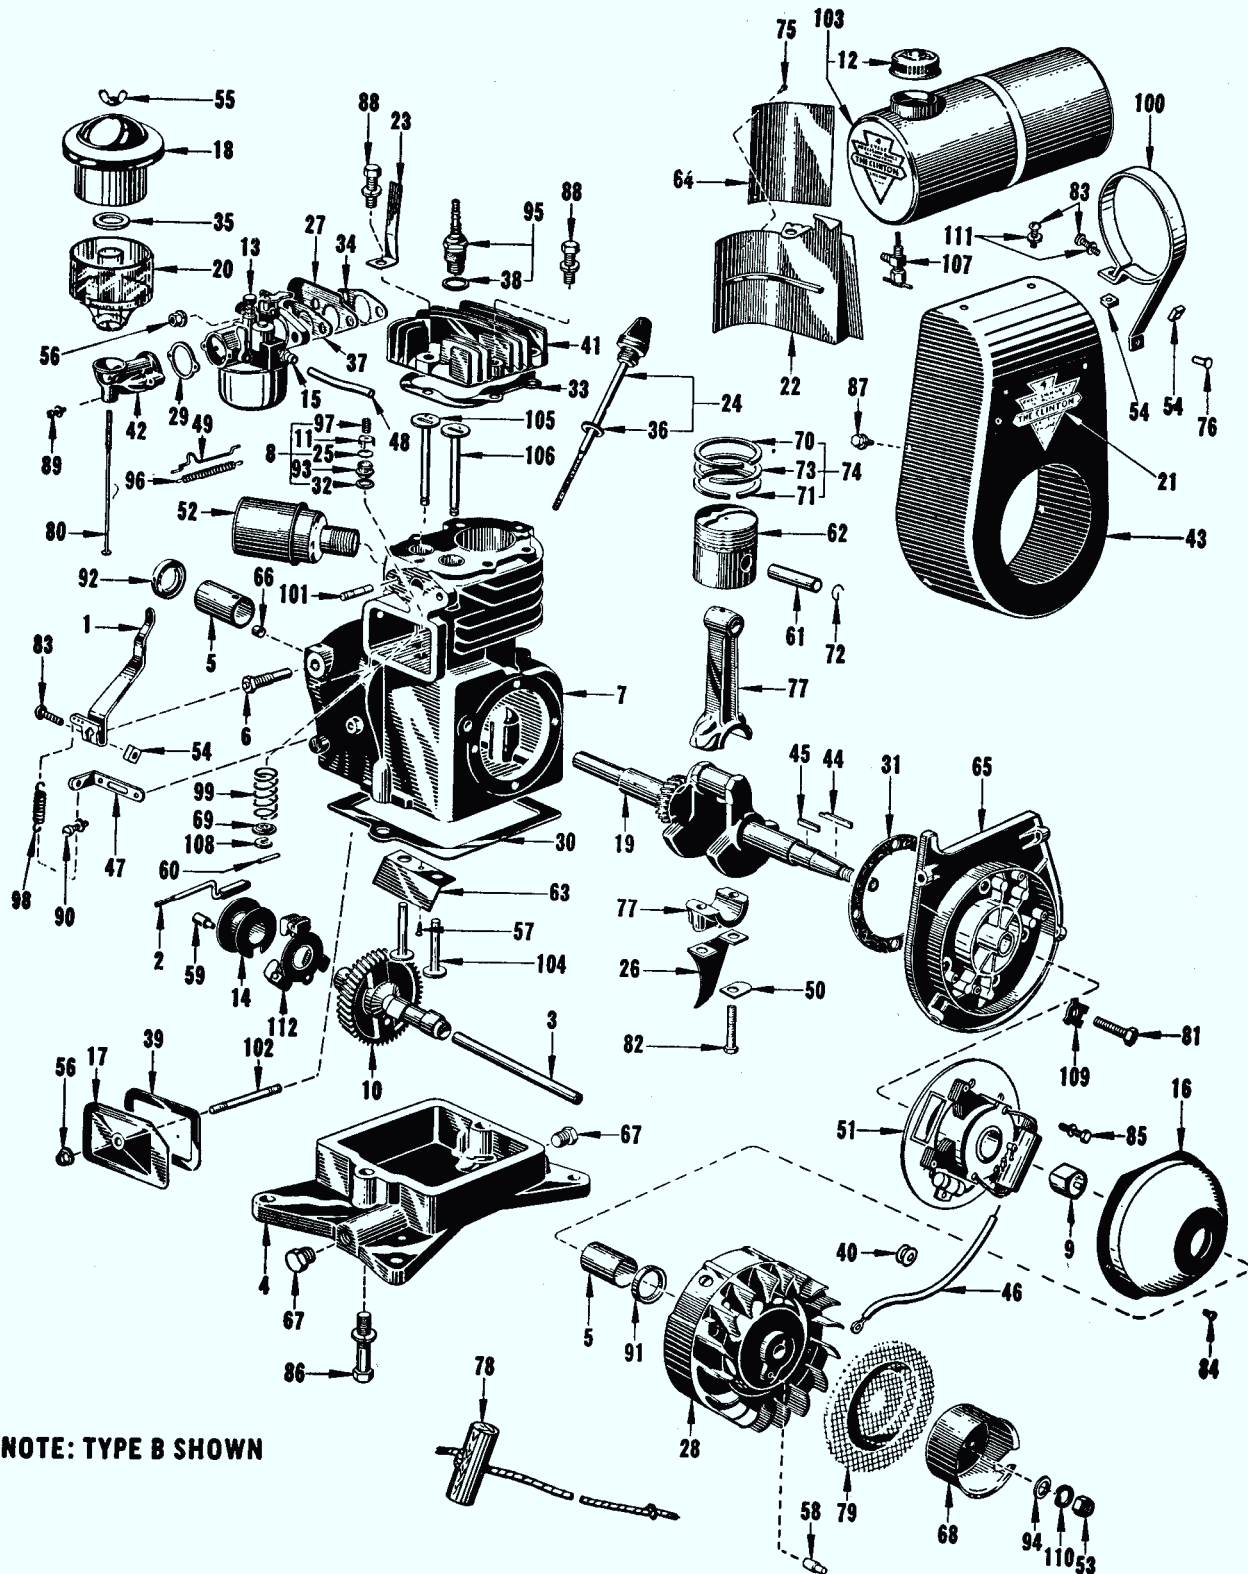
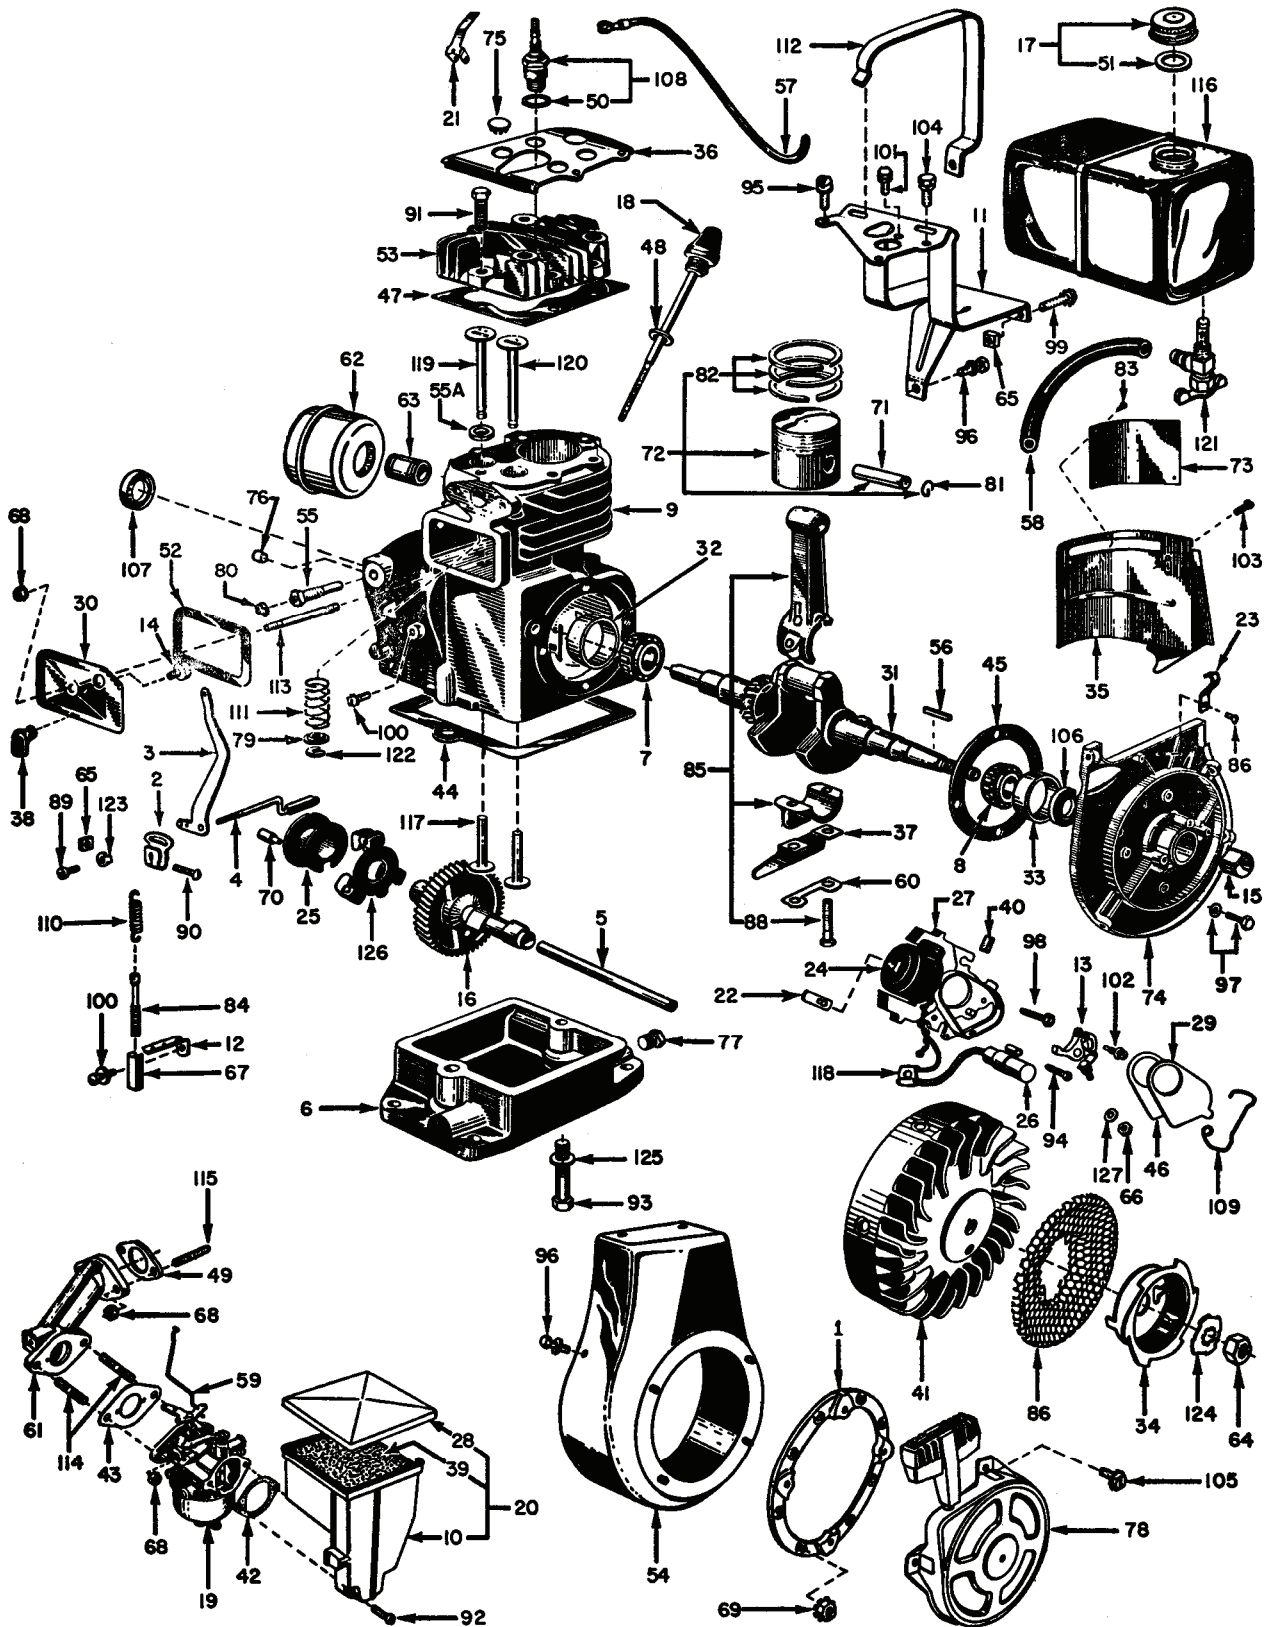

Fig. CL50 — Exploded view of series 700 engine. Early models were equipped with Scintilla magneto (51) as shown.
Fig. CL56—Exploded view of model 498-0000-000 engine. Governor weight assembly (126) is retained to camshaft gear by pin (70) that is pressed into the gear.
GOVERNOR. Either a mechanical or an air vane type governor is used. All vertical shaft engines and some horizontal shaft engines use an air vane type governor as shown at (126) in the exploded view of engine in Fig. CL53. Mechanical governors are of the type shown in the exploded views of engines in Figs. CL50 and CL56.
MECHANICAL GOVERNOR. The governor weight unit (112—Fig. CL 50 or 126—Fig. CL56) is driven by the cam gear, and is retained to the gear by a pin (59—Fig. CL 50 or 70—Fig. CL 56) driven into the gear. The governor collar (14—Fig. CL 50 or 25—Fig. CL 56) has a notch in the inner flange of the collar which fits around the weight unit retaining pin. The governor
synchronized. With the engine not running, move the governor throttle arm (1—Fig. CL50 or 3—Fig. CL56) so that the governor shaft holds the governor weight unit in fully closed position. At this time, there should be 1/32 to 1/16-inch clearance between the high speed stop on the carburetor throttle arm and the carburetor casting. To obtain
this adjustment, increase or decrease the loop in the carburetor to governor link (49—Fig. CL50) on older model engines or loosen the adjustment screw (89—Fig. CL56) on newer model engines and reposition the arm (3) on the adjuster (2) and tighten adjustment screw (89).
exceed 3600 RPM) by adjusting tension of governor spring (98—Fig. CL50 or 110—Fig. CL56). CAUTION: Do not use any spring other than correct Clinton part specified for a particular engine as spring must be balanced to governor weight unit for proper speed control.
On most models, a backlash spring (96—Fig. CL50) is used to hold any free play out of governor to carburetor linkage and thereby reduce any tendency for engine to surge.
MAGNETO AND TIMING. Some early model engines were equipped with Scintilla magnetos (51—Fig. CL50). Condenser, breaker points and armature coil are located under the flywheel on all models.
CRANKCASE BREATHER. Crankcase breather assembly (8—Fig. CL50, 10—Fig. CL53 or 14—Fig. CL56) should be removed and cleaned if difficulty is experienced with oil loss through hole in valve cover or whenever the engine is being overhauled. Be sure that the breather is correctly reassembled and reinstalled.